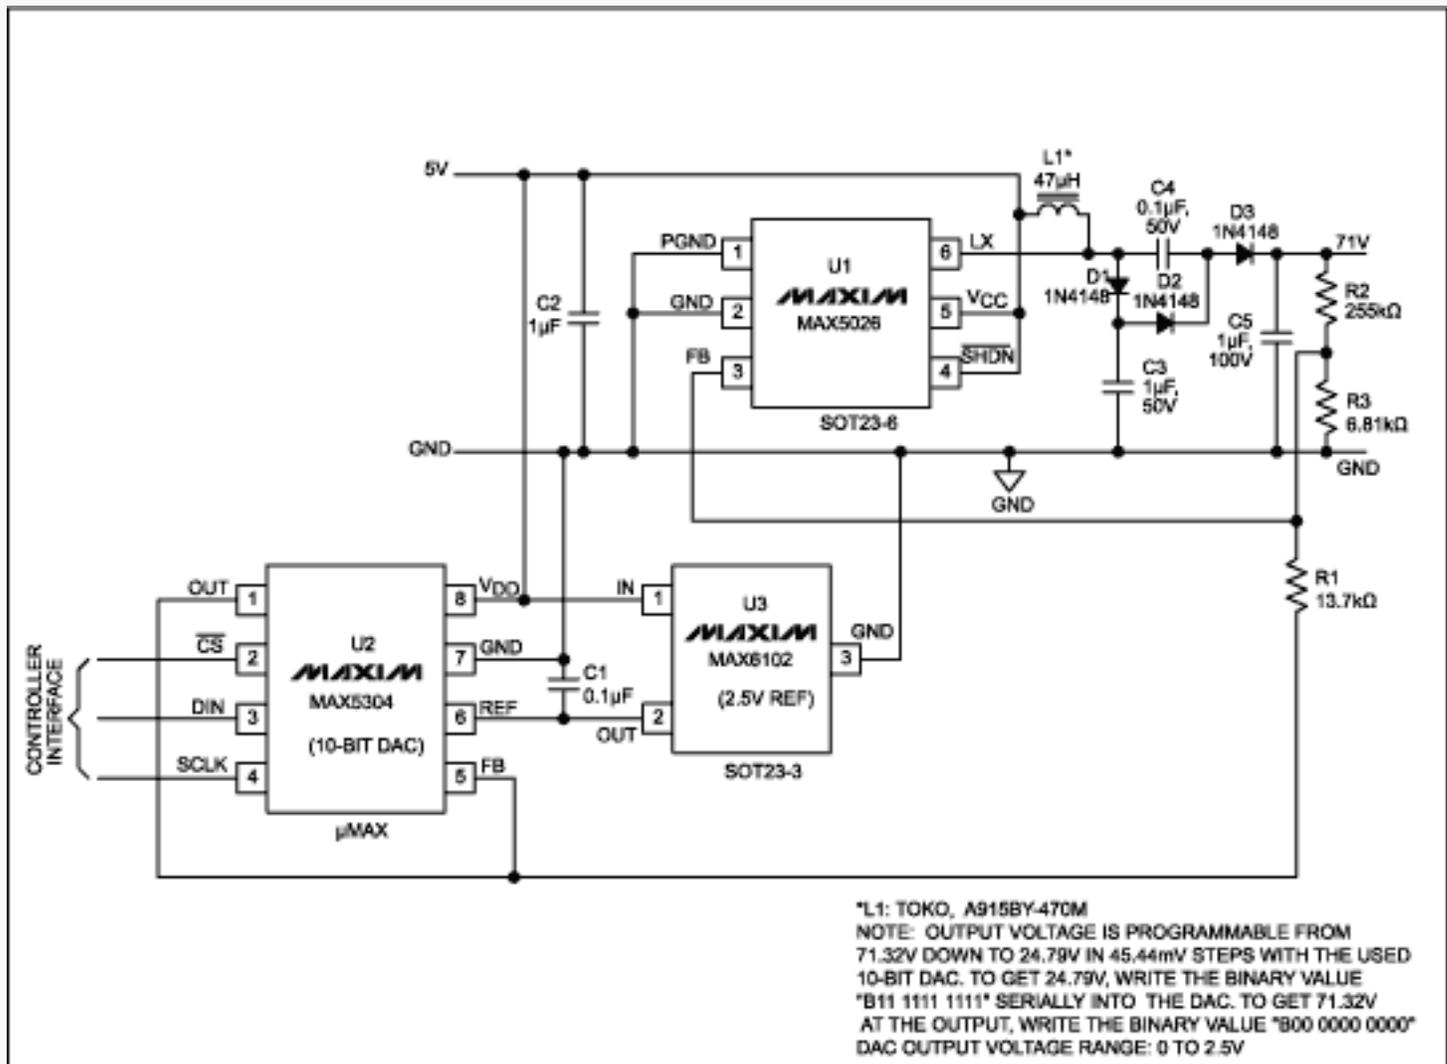

Figure 5. The output voltage in this low-noise APD bias power supply is digitally programmable from 25V to 71V in 45mV increments.
**Figure 5's** schematic is an APD power supply with digitally adjustable output voltage. A  $\mu C$  in the control loop reads the thermistor value, provides temperature compensation, corrects the thermistor curvature through lookup tables, and compensates for gain variations due to APD manufacturing. In this application circuit, the 10-bit DAC (U2) provides approximately 45mV resolution when varying the output voltage from 25V to 71V.